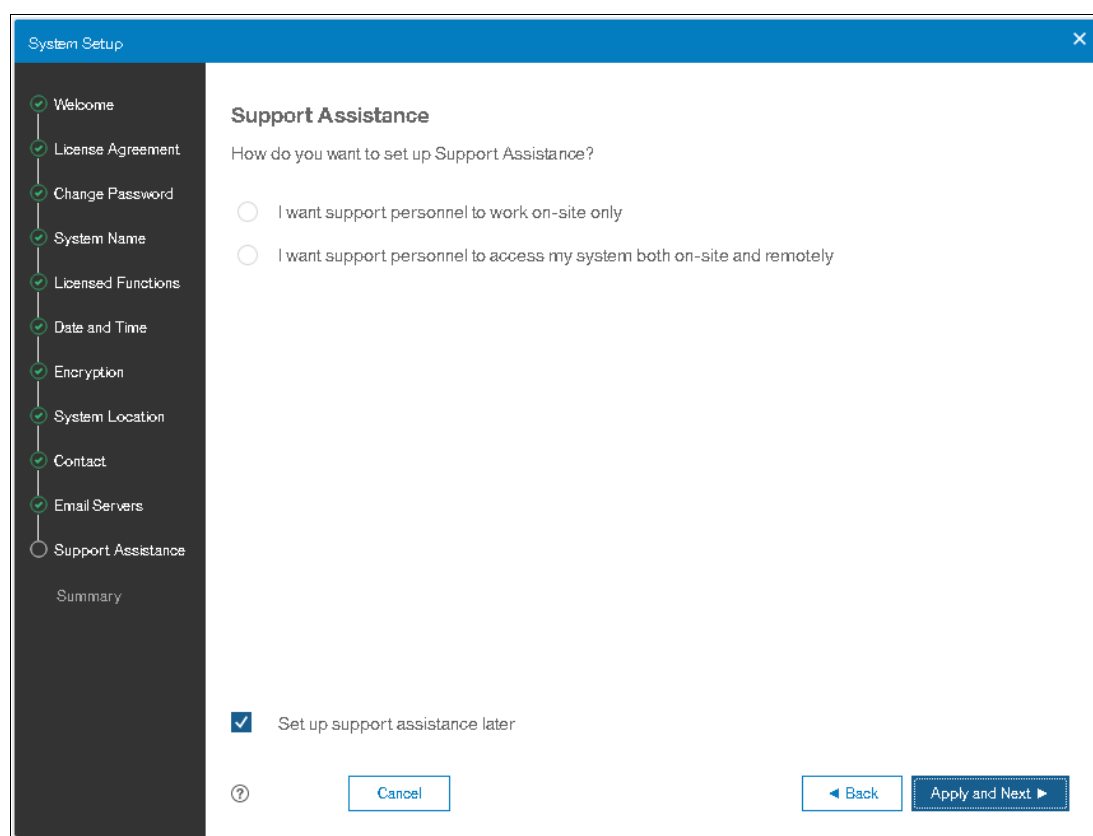

Figure 2-35 Initial setup: Support Assistance
16. The next window is for setting up support assistance if desired as shown in Figure 2-35.